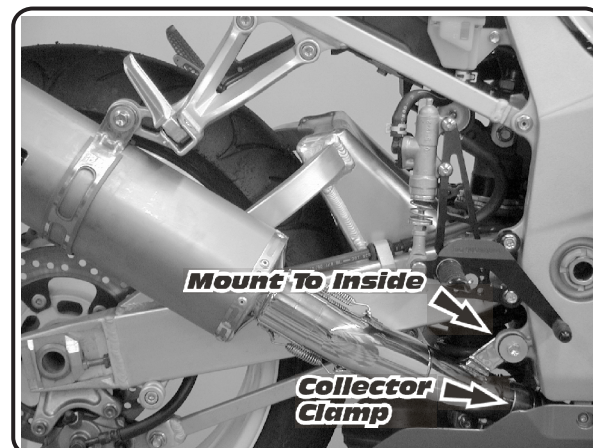

Fig. 2
- 3 Slip supplied collector clamp over inlet of Yoshimura tail-pipe, then slip tail-pipe inlet over stock collector outlet. (See Fig.2)
- 4 Mount tail-pipe to inside of chassis mount using stock bolt and supplied nut. (See Fig.2) Line up chassis mount on Yoshimura tailpipe with stock chassis mount location. Torque bolt to 2.5 kg-m (16 lb-ft).